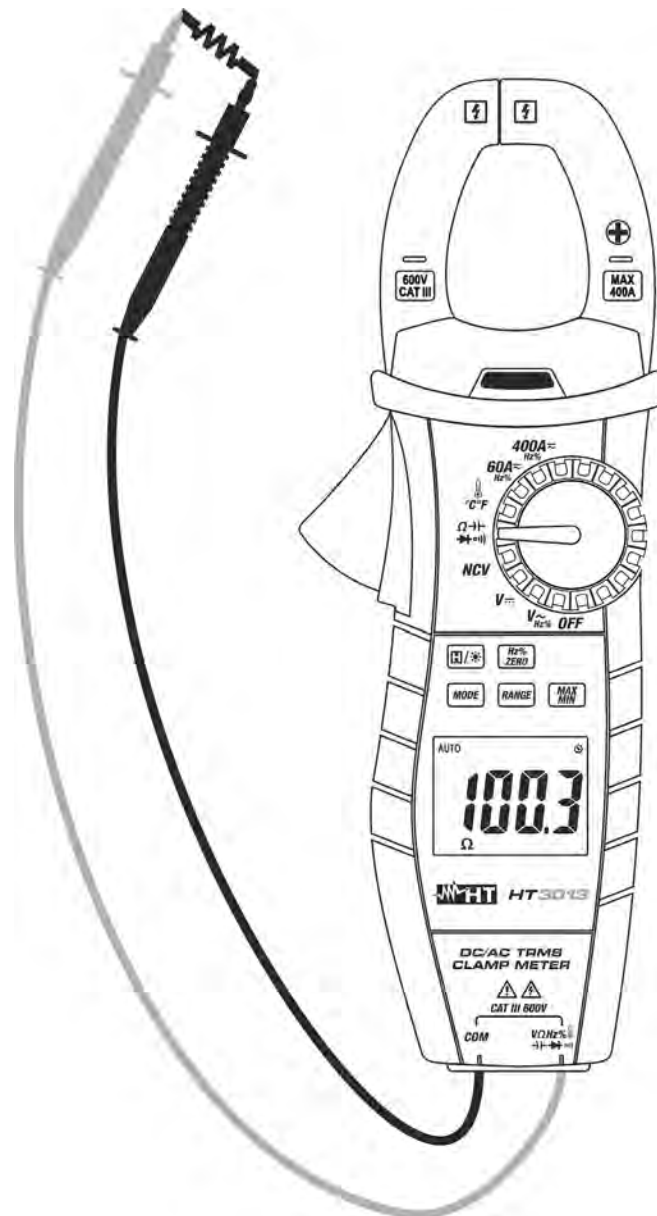

Fig. 7: Use of the instrument for Resistance measurement
3. Position the test leads in the desired points of the circuit to be measured (see Fig. 7). The display shows the value of resistance.